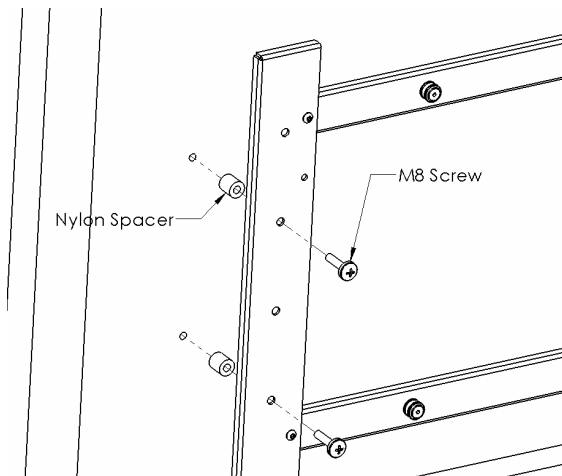
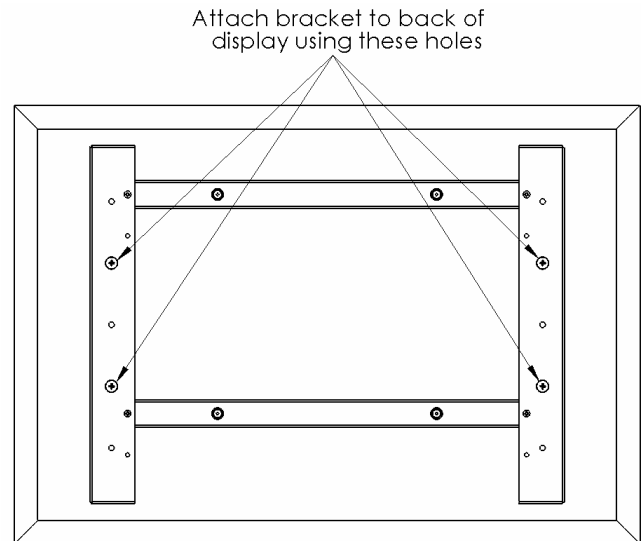

Figure 6
Figure 7
- Place Nylon spacers over mounting holes on back of screen and attach the mounting brackets to the display using M8 screws (see Figure 6 & Figure 7).